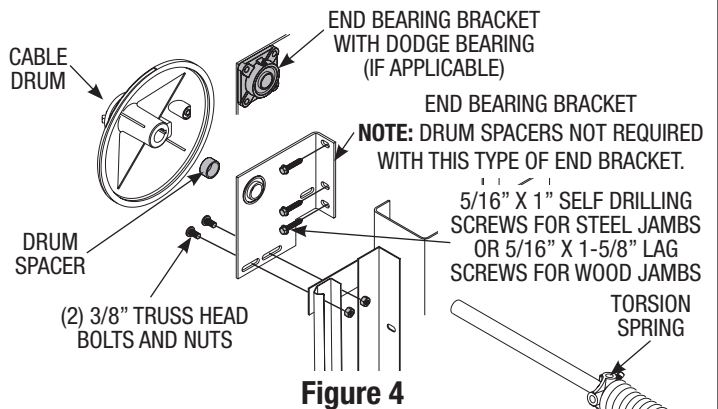

Figure 4
Lift torsion spring assembly into place and bolt bearing plates to upper track assembly using (2) 3/8" truss head bolts and nuts (See **Figure 4**).